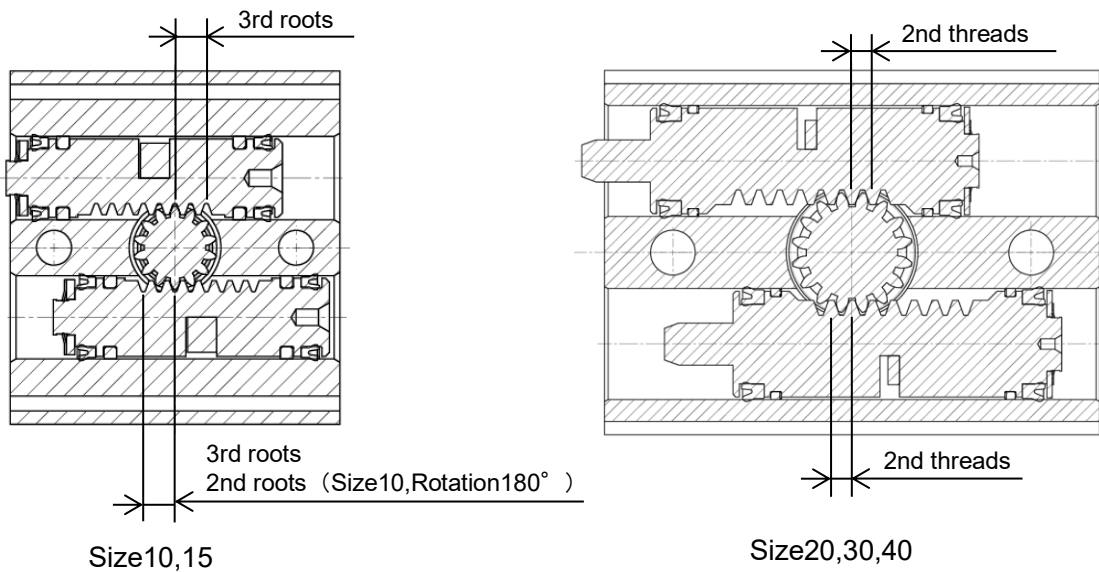
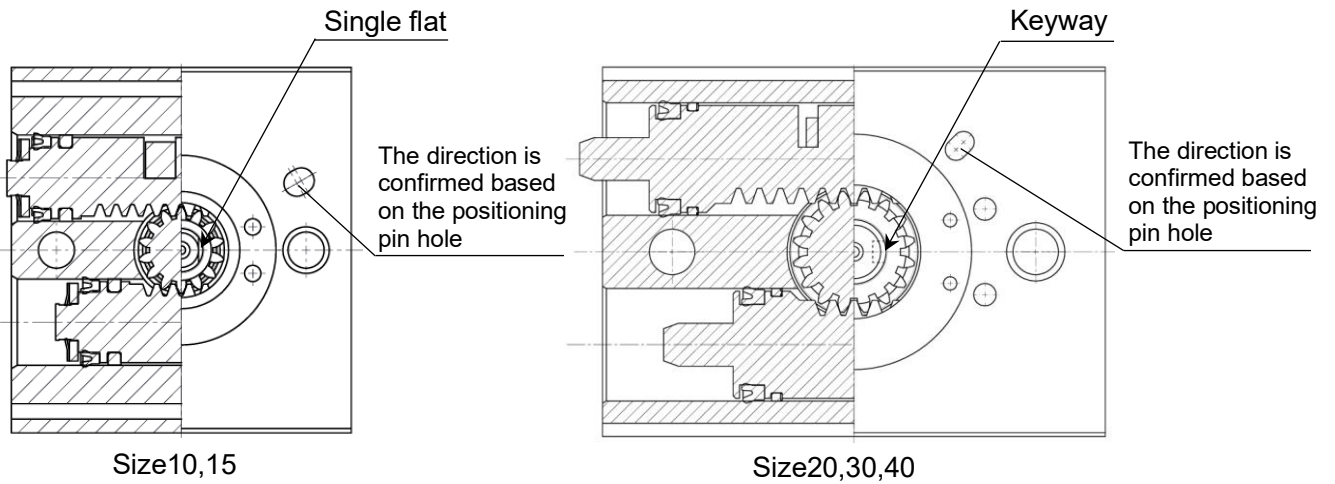

Figure 19
Figure 20
- (3) Hold the piston in place and install the pinion gear on the piston. Figure 19 shows the piston position and Figure 20 shows the pinion gear assembly angle.